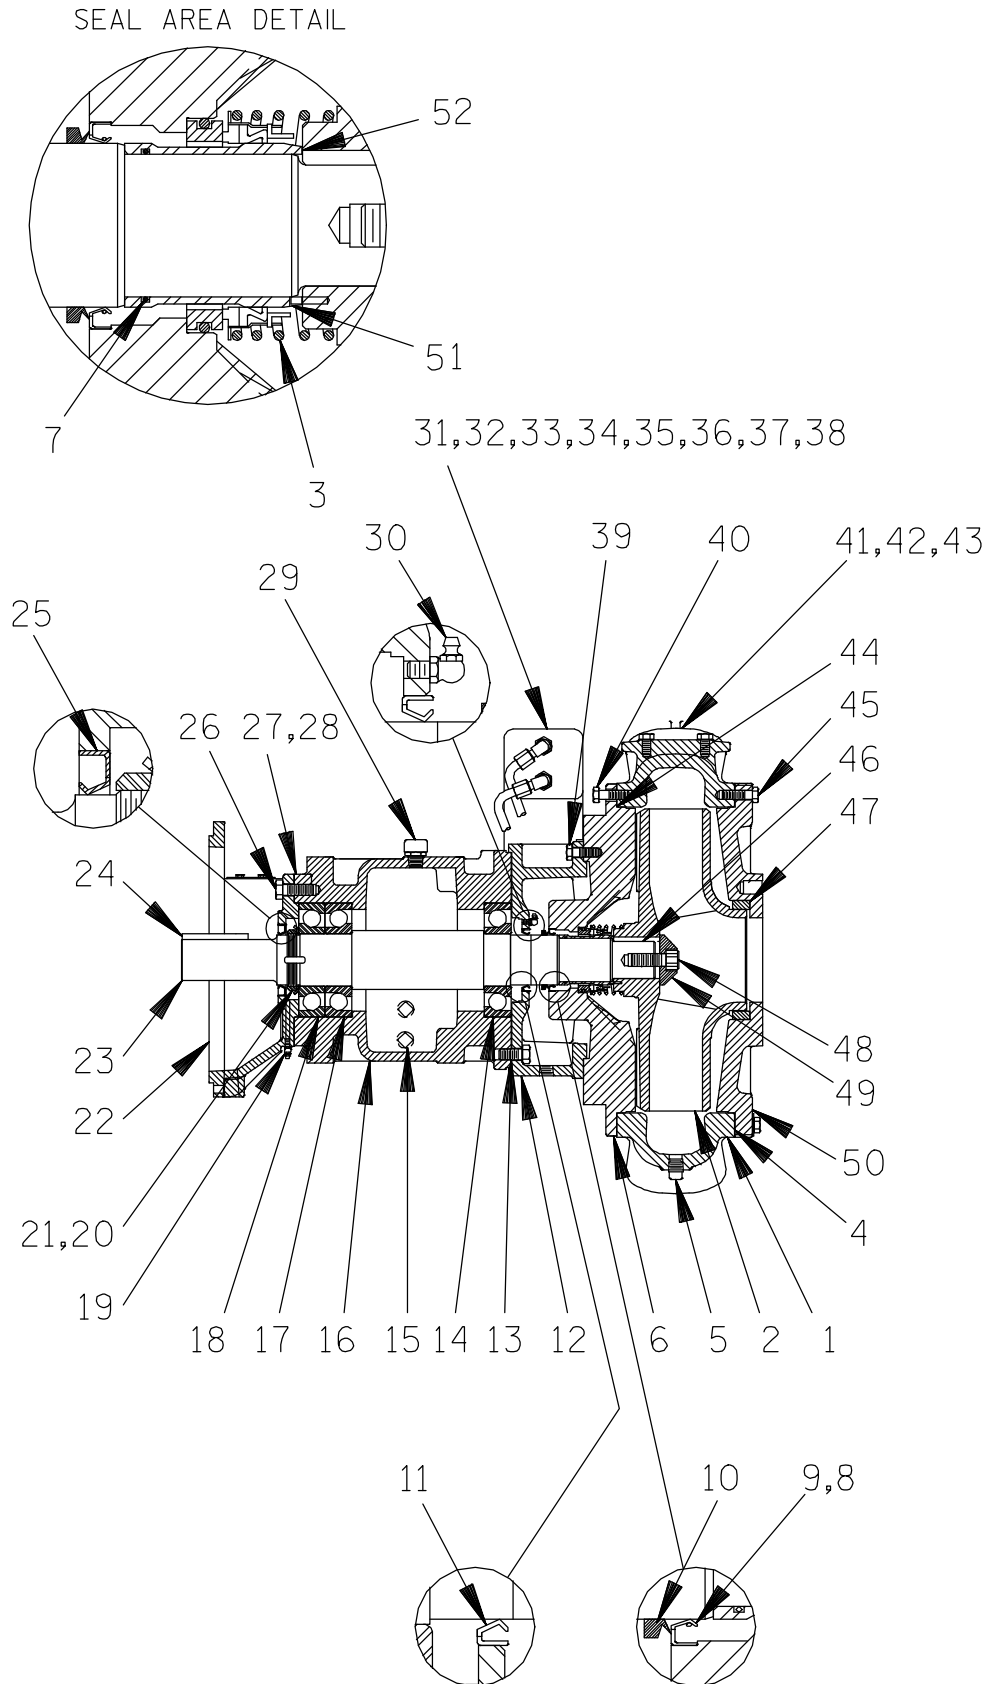

Figure 4. Pump Assembly
Disconnect the air discharge tubing from the priming chamber assembly (1). Support the priming chamber assembly using a sling and a suitable lifting device. Remove the hardware (6 and 7) and separate the priming chamber assembly, gasket (8) and baffle (9) from the hopper spool (51, Figure 4).